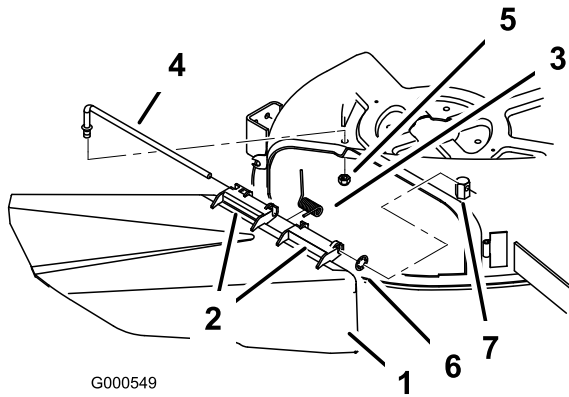

Figure 51
1. Locate items shown in Figure 51.
2. Remove the nut (3/8 inch) from the rod under the mower (Figure 51).
3. Slide the rod out of the short stand-off, internal lock washer, spring, and grass deflector (Figure 51). Remove the damaged or worn grass deflector.
4. Replace the grass deflector and internal lock washer (Figure 51).
Slide rod through second grass deflector bracket and internal lock washer (Figure 51).
7. Insert rod at front of grass deflector into short stand-off on deck. Secure rear end of rod into the mower with a nut (3/8 inch) (Figure 51).